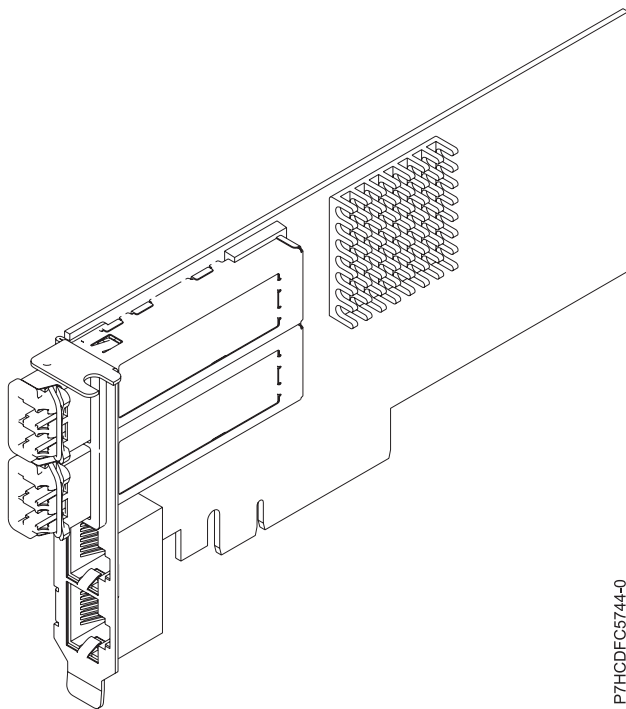

Figure 35. PCIe2 LP 2x10GbE SR 2x1GbE UTP adapter
The PCIe2 LP 2x10GbE SR 2x1GbE UTP adapter is a PCI Express generation-2, four-port Ethernet unified wire adapter with a PCI Express 2.0 host bus interface. The adapter is optimized for cloud computing, virtualization, storage, and other data center applications. The four port adapter provides two 10 Gb Ethernet ports and two 1 Gb Ethernet ports. The two 10 Gb small form-factor pluggable (SFP+) single root (SR) transceiver ports are used for connectivity with other servers or switches in the network. Each SFP+ (SR) port provides Ethernet connectivity with a nominal data rate of 10 Gbps (gigabits per second), and uses the SFP+ copper twinaxial cables up to 5 m (16.4 ft) in length. Each of the RJ45 ports provides Ethernet connectivity at a data rate of 1 Gbps. The link aggregation and failover features of the adapter are ideal for critical network applications that require redundancy and high availability. Figure 35 shows the FC 5745 adapter.